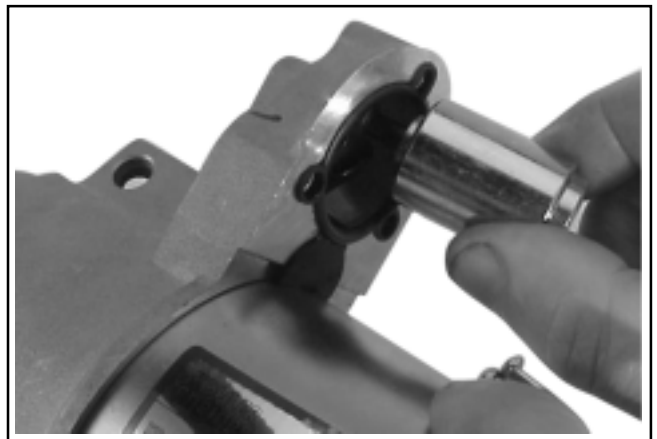

Figure 8-15. Removing Plunger.
3. Lift and unhook the plunger assembly from the drive lever. Remove the gasket from the recess in the housing. See Figure 8-15.